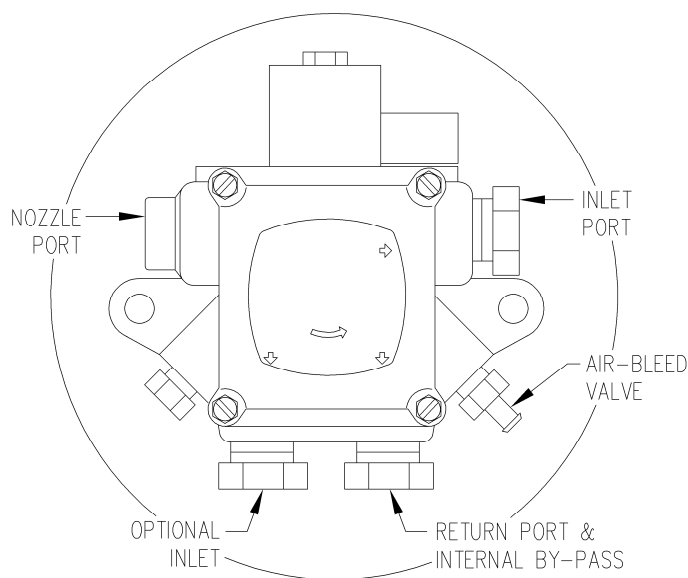

Figure 27: Location of Oil Pump Vent Plug
7. Turn on the electrical power to start the burner. If the burner does not start, immediately reset the manual overload switch on the motor (if so equipped) and the safety switch of the burner primary control. Bleed air from the fuel oil line as soon as the burner motor starts rotating. To bleed the fuel pump, attach a clear plastic hose over the vent plug, refer to Figure 27. Loosen the plug and catch the expelled oil in an empty container. Tighten the plug when all the trapped air appears to be purged. If the burner stops during bleeding, wait three to five minutes for the control safety switch to cool. Then manually reset the switch. Continue bleeding the line until the air is completely removed.